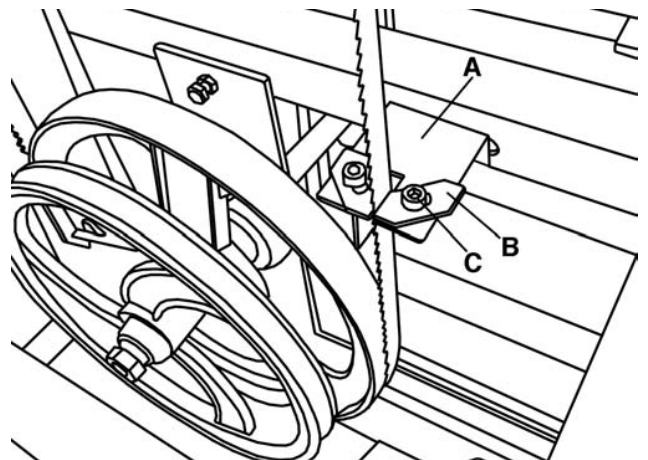

FIGURE 17
Lower blade guides-The lower blade guide assembly (A) Fig.17 underneath the table has 2 guide plates (B), these guide plates should be adjusted to 0.004" away from the blade using a feeler gauge. To adjust blade guide plates, loosen cap screws (C) and adjust guide plates, retighten cap screws.